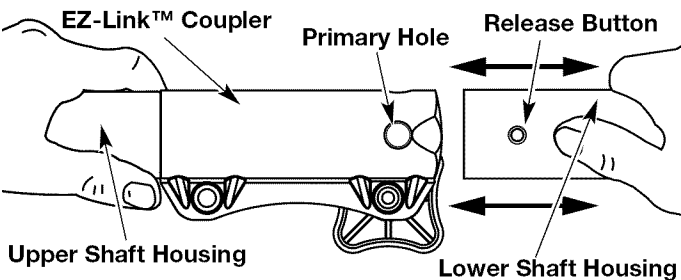

Fig. 17
3. While firmly holding the upper shaft housing, pull the cutting attachment or add-on straight out of the EZ-Link™ coupler (Fig. 17).
2. While firmly holding the add-on, push it straight into the EZ-Link™ coupler (Fig. 17).